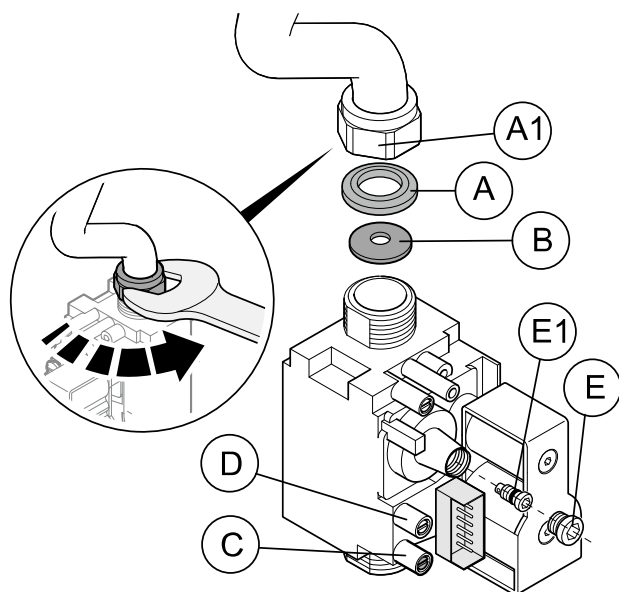

Figure 1
F.3 Gas valve adjustment (refer to Figure 1)